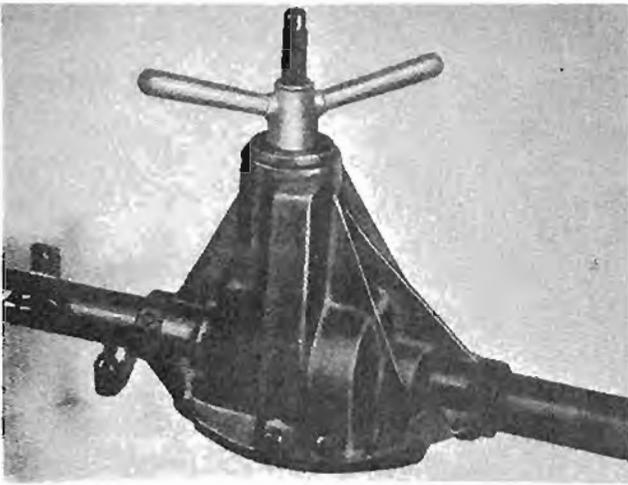

Fig. 18 Fitting pinion bearings outer rings utilizing Churchill Tool No. M70.
- (i) Fit the outer rings of the pinions two bearings, pulling them into place with a special tool (Fig. 18).
- (vi) Insert the measured pack of shims on the pinion head bearing outer ring abutment face (Fig. 22) and replace the pinion bearing outer rings, pulling them into place with the special tool shown in Fig. 18.